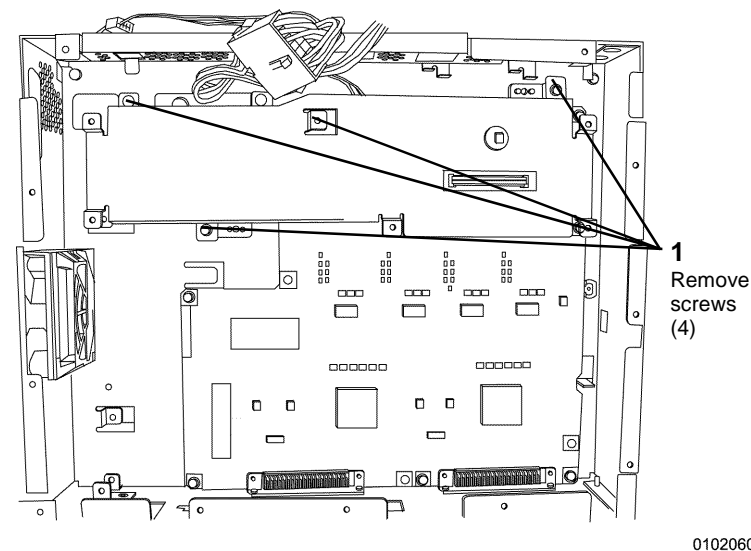

Figure 3 Removing Bracket
7. Remove the bracket over the VSEL PWB (Figure 3).